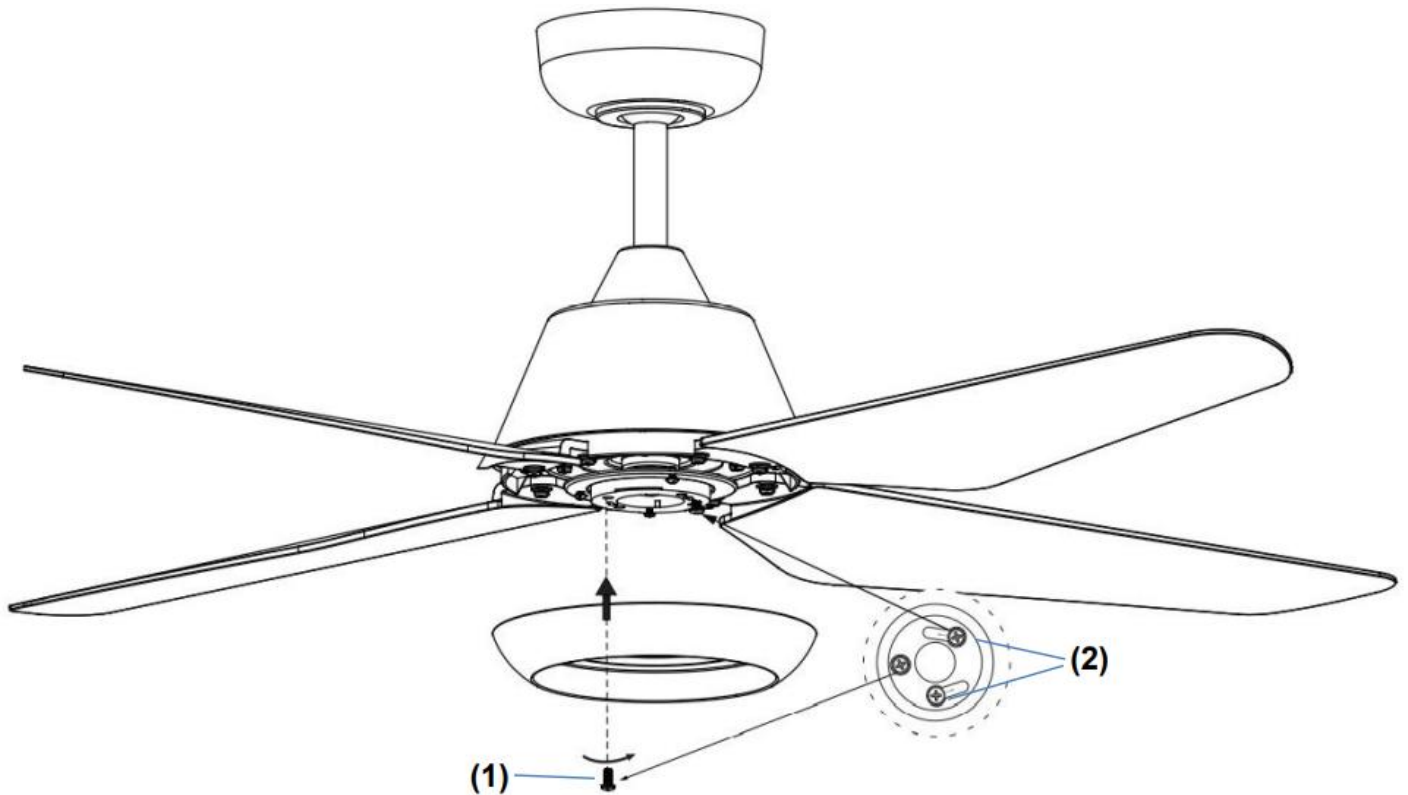

Fig. 6
INSTALLATION OF LIGHT KIT (Fig. 6)
1. Loosen the screw (1) from the fan bracket. (Fig. 6)
2. Align the two slot screws with the keyhole slots (2) of the light kit plate. (Fig. 6)
3. Turn the light kit plate counterclockwise until the slot screws are firmly at the end of the slots (2).
4. Secure the screw (1) to the lamp shade bracket. Tighten all three screws. Do not over-tighten.